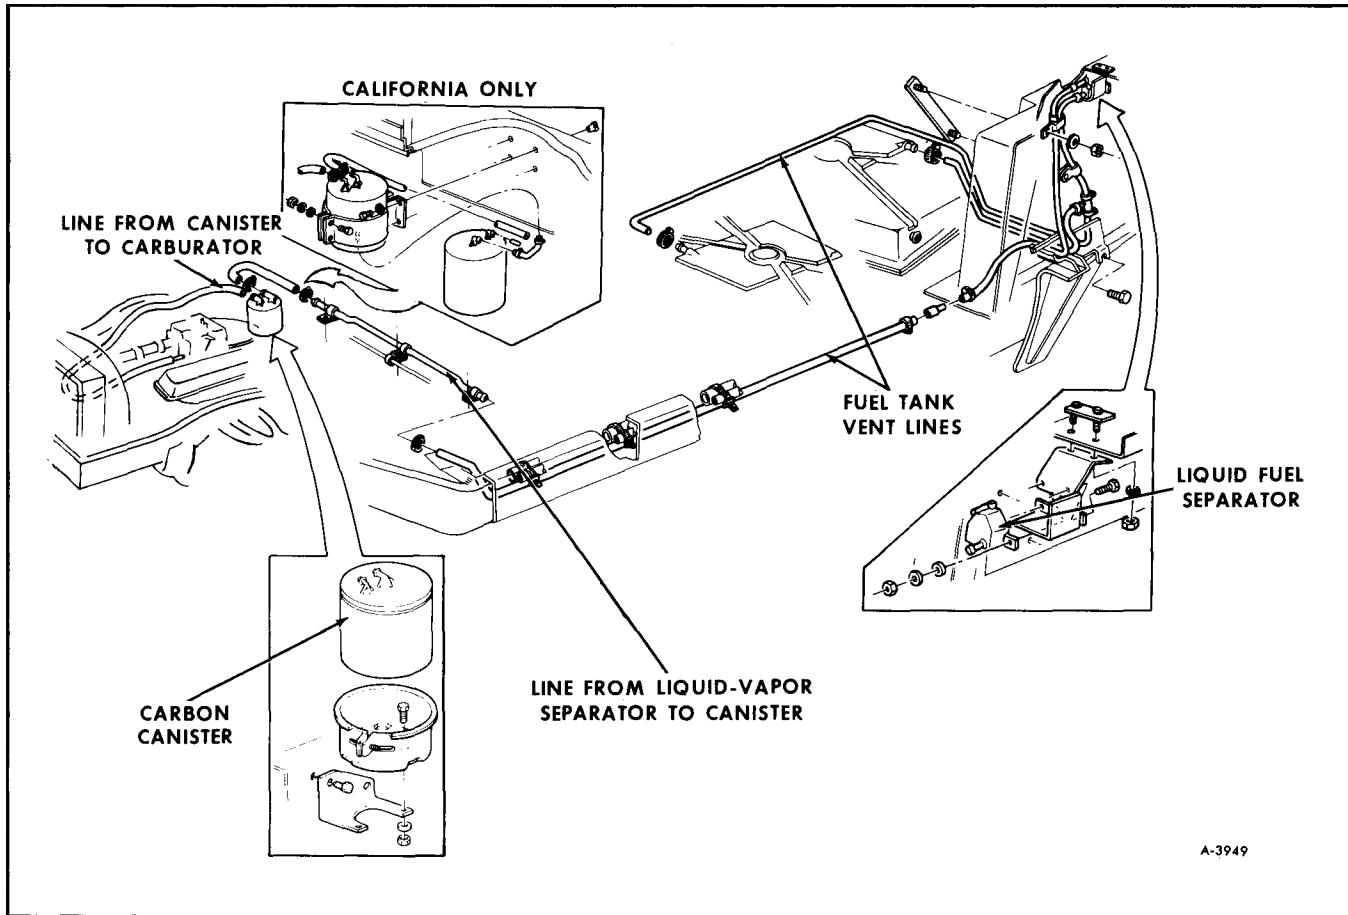

Figure 1—Evaporation Control System
In order to limit gasoline vapor discharge into the atmosphere, the following features are incorporated in the fuel system. The E.C.S. system (figure 1) is designed to trap fuel vapors which normally escape from the fuel tank. Vapor arrest is accomplished through the use of a charcoal canister(s) which adsorbs the fuel vapors and stores them until they can be removed to be burned in the engine. Removal of vapors from the canister(s) to the engine is accomplished by a calibrated purge orifice in the carburetor. In addition to the carburetor modifications
3. If vehicle is equipped with two canisters remove the lower canister clamp from bracket and slide canister and clamp out. See Figure 1.